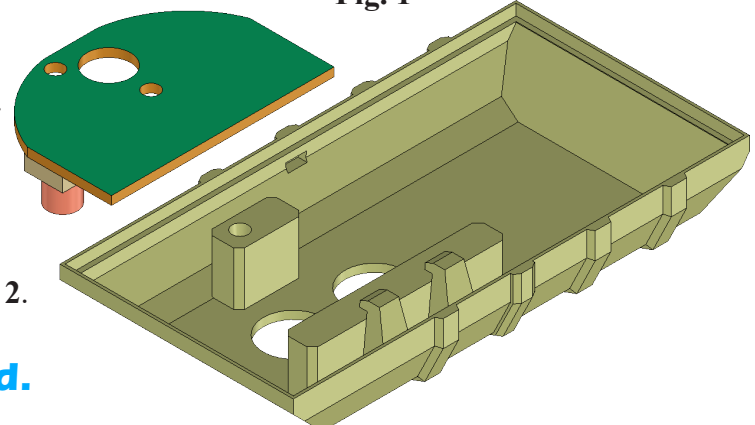

Fig. 2
Step 3. Place the Transmitter Board, Fig. 2.